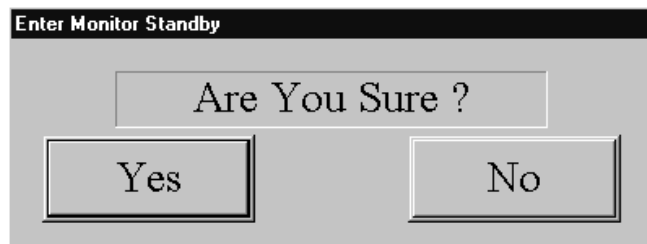

Figure 8-1. Monitor Standby Confirmation Dialog Box
- If the total fresh gas flow is one liter per minute or less, the confirmation dialog box shown in Figure 8-1 is displayed: